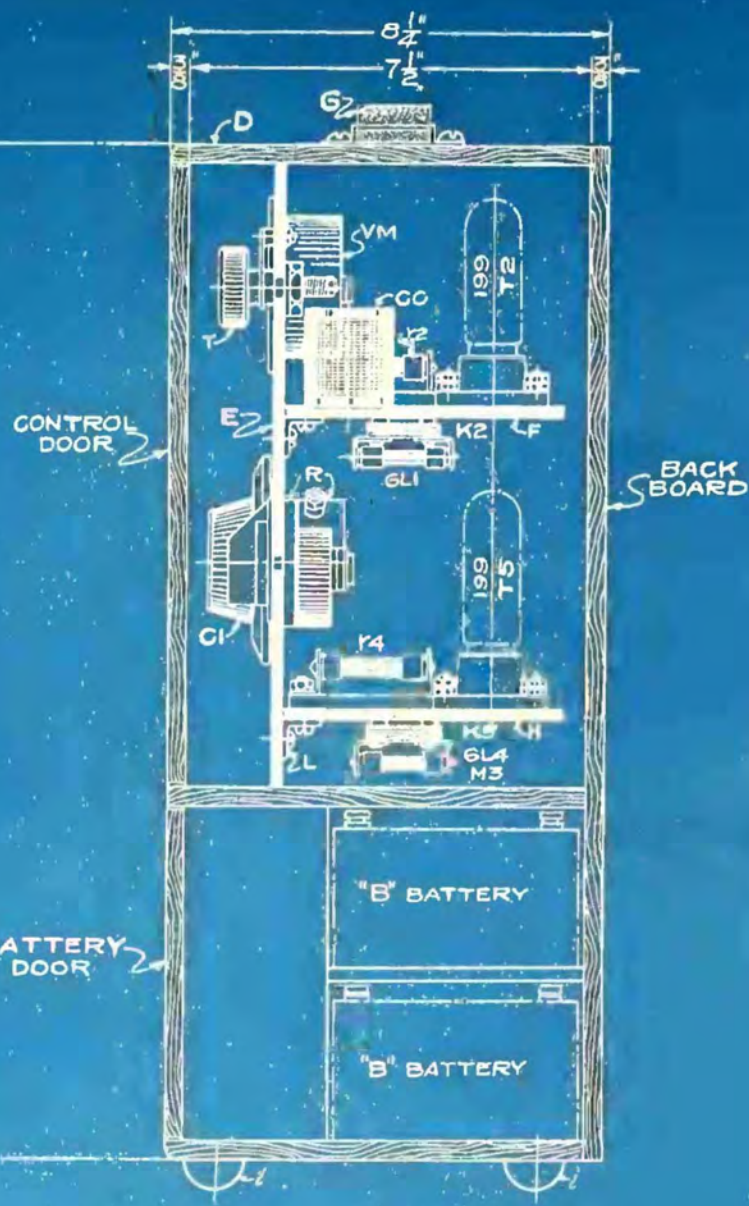

FIG. 3A
The side sectional view of Fig. 3A shows that a shelf (F) is used for carrying the first three tubes, and that this shelf is attached to the panel (E) by means of brass angle brackets (L). The shelf (F) carries the first two tubes (T1-T2) of the radio frequency circuit and also the detector tube (T3). Below the upper shelf is the lower shelf (H) which carries the three audio tubes (T4-T5-T6). As the resistance units and other parts of the circuit are carried on the underside of the shelves with the sockets on top, we must be sure to leave room to accommodate the height of the tubes over their sockets, plus the thickness or height of the resistance units and the condensers, plus clearance.